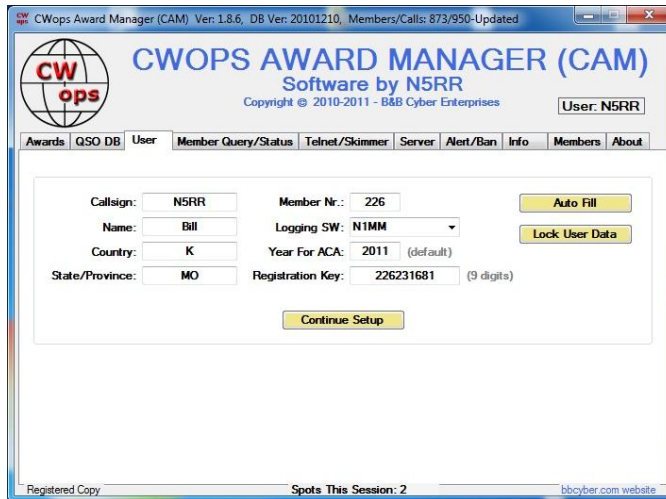

Figure 3-2. Setup Screen With User Data.
- g. The filled-in “User” tab should look similar to that shown in Figure 3-2 on the next page.